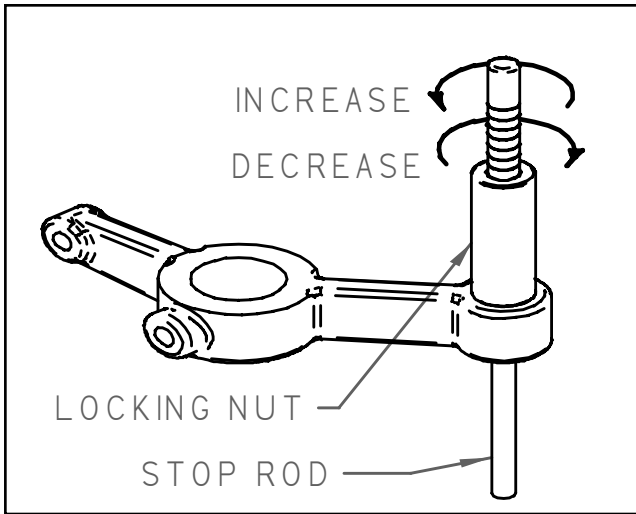
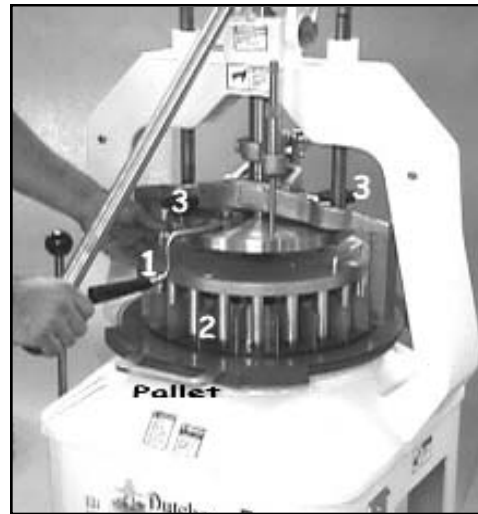

Figure 9
Figure 10
6. Loosen the two hand knobs (Fig. 10, No. 3) fully.
7. Set pocket height on the stop rod, Fig. 9, at least 1" off the trip plate. Release the trip lever (Fig 10, No. 1).
8. Pull handle down until head rests on pallet (Fig. 10).
9. Rotate head assembly (Fig. 10, No 2) ¼ turn clockwise.